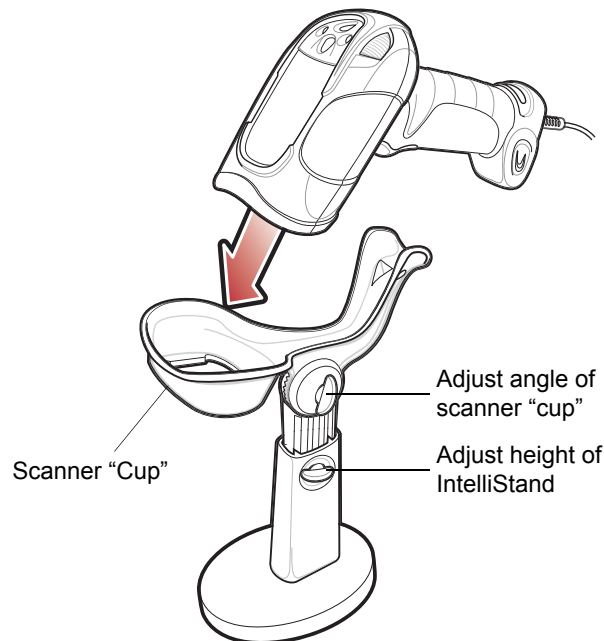

Figure 2-6 Inserting the Digital Scanner in the Intellistand
2. Insert the digital scanner in the Intellistand by placing the front of the digital scanner into the stand's "cup" (see Figure 2-6).